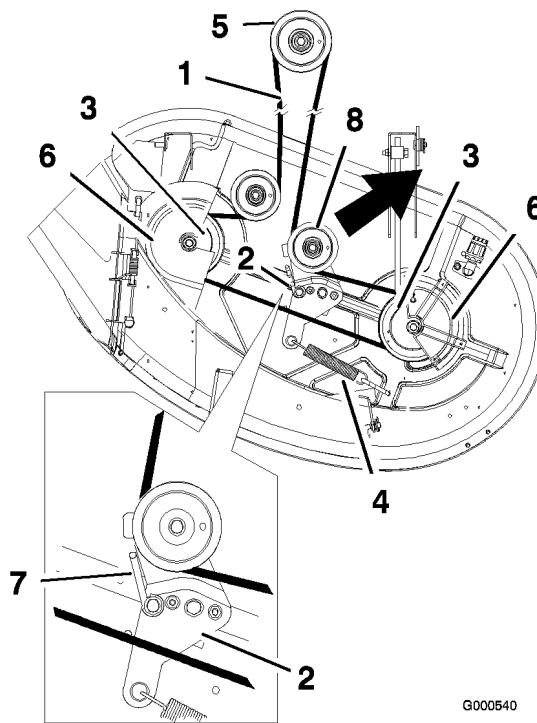

Figure 49
4. Remove the belt covers over the outside spindles and loosen the belt guide (Figure 49).
5. Pull the idler pulley in the direction shown in Figure 49 and roll the belt off of the pulleys.
6. Route the new belt around the engine pulley and mower pulleys (Figure 49).
7. Pull the idler pulley in the direction shown in Figure 49 and route the belt onto the idler pulley (Figure 49).
8. Rotate the belt guide, on the idler arm, towards the pulley until it stops (Figure 49).
9. Tighten the belt guide (Figure 49).